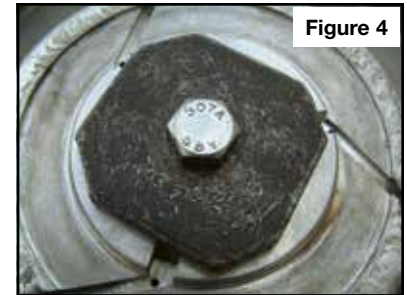

Figure 4
- Install a holding fixture to hold the repair plate. A 3/8" x 2-1/2" (9.53mm x 57.15mm) bolt and two oversized flat washers will work (**Figure 4**).